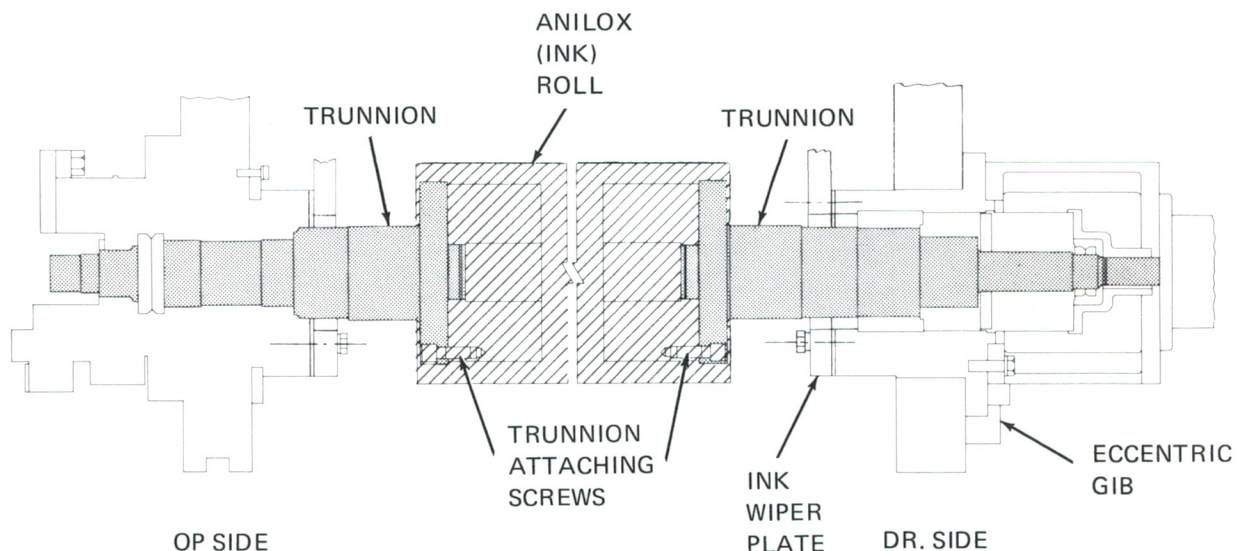

FIGURE 4-30. INK ROLL REPLACEMENT
- Step 11) Remove the ink roll trunnion attaching screws (Figure 4-30) on the drive and operating sides of the ink roll.